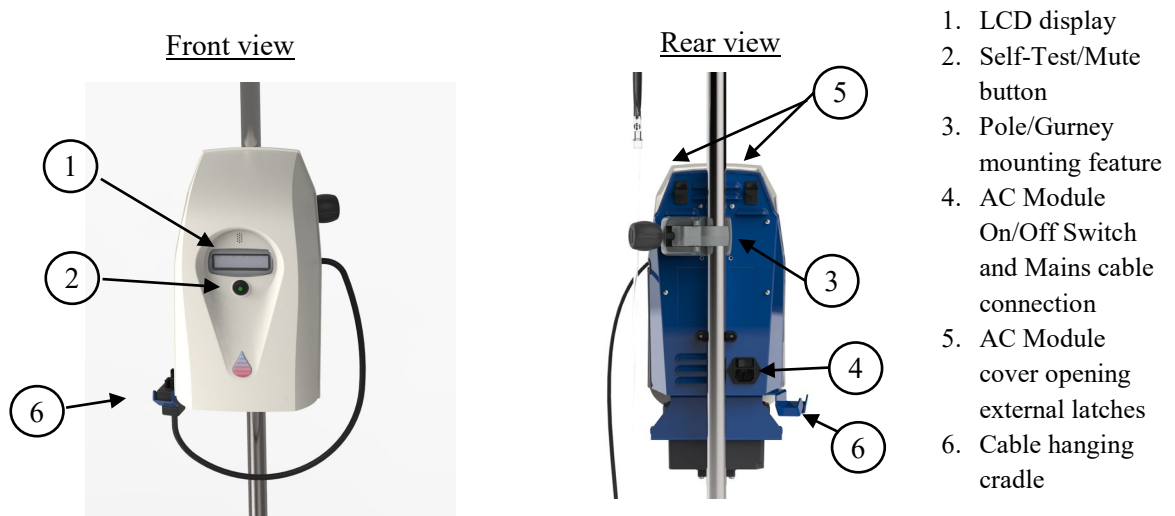
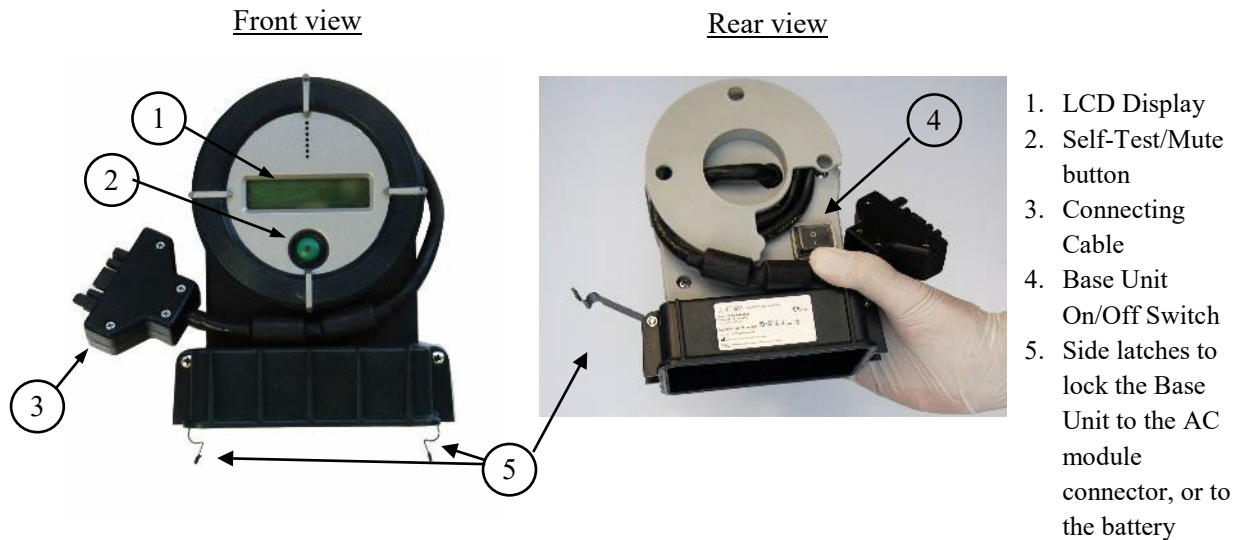

Figure 1. AC Power Supply Module front and rear views
Figure 2. Base Unit front and rear views
The **Warrior AC Module** (see figure 1 below) with the Base Unit* and Compact Disposable Unit* is an inline, AC-powered device for warming blood, blood products and IV fluids. The Warrior AC Module with the Base Unit* and Compact Disposable Unit * can be used to help prevent hypothermia.
b.	<p>Open the AC Module by pressing the two external latches on the back side (no. 5 in figure 1).</p> <p>Unroll the Base Unit cable to its full length.</p> <p>If the Base Unit is connected to a battery, remove the battery from the bottom edge of the Base Unit.</p> <p> WARNING! Make sure that the AC Module interior part is free of fluids and foreign objects</p> <p>Insert the Base Unit into the AC Module and properly attach the side latches (item 5 in figure 2) of the Base Unit to the AC connector.</p>